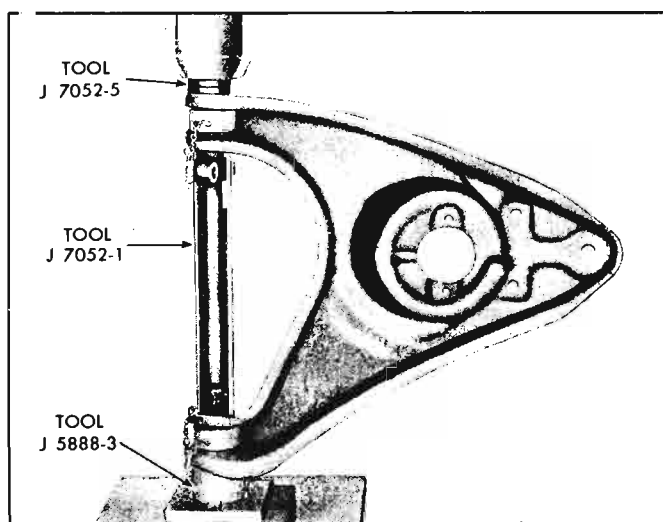

Fig. 3-60—Installing Lower Control Arm Cross Shaft Bushings
3. Press bushing into control arm until flange contacts control arm (fig. 3-60).